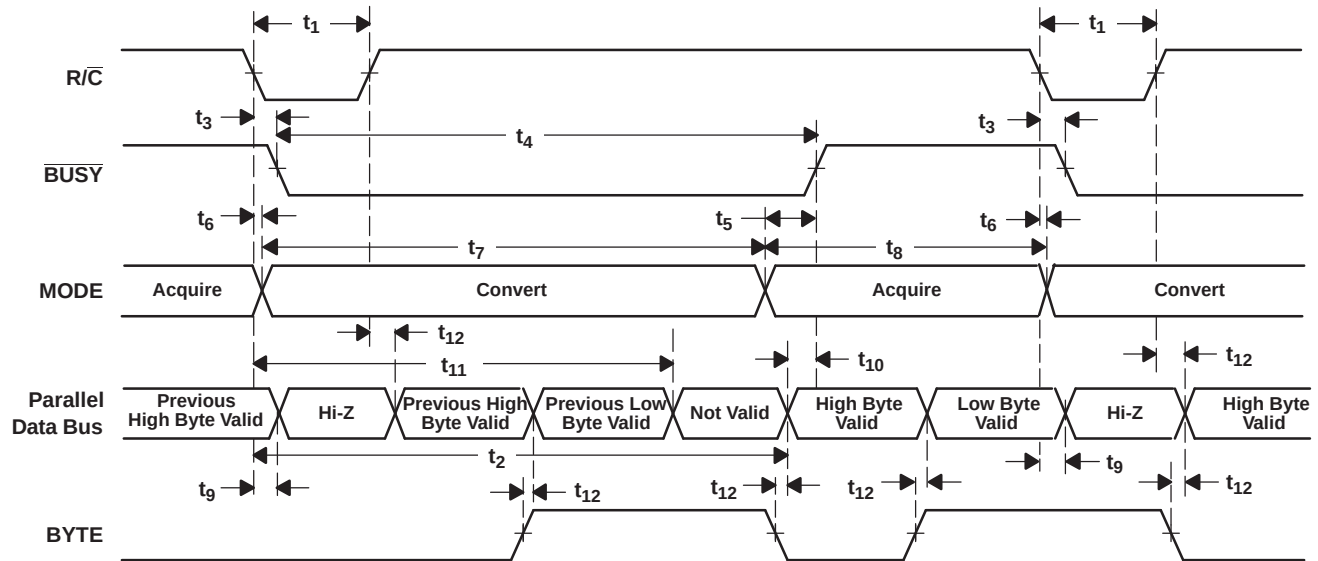
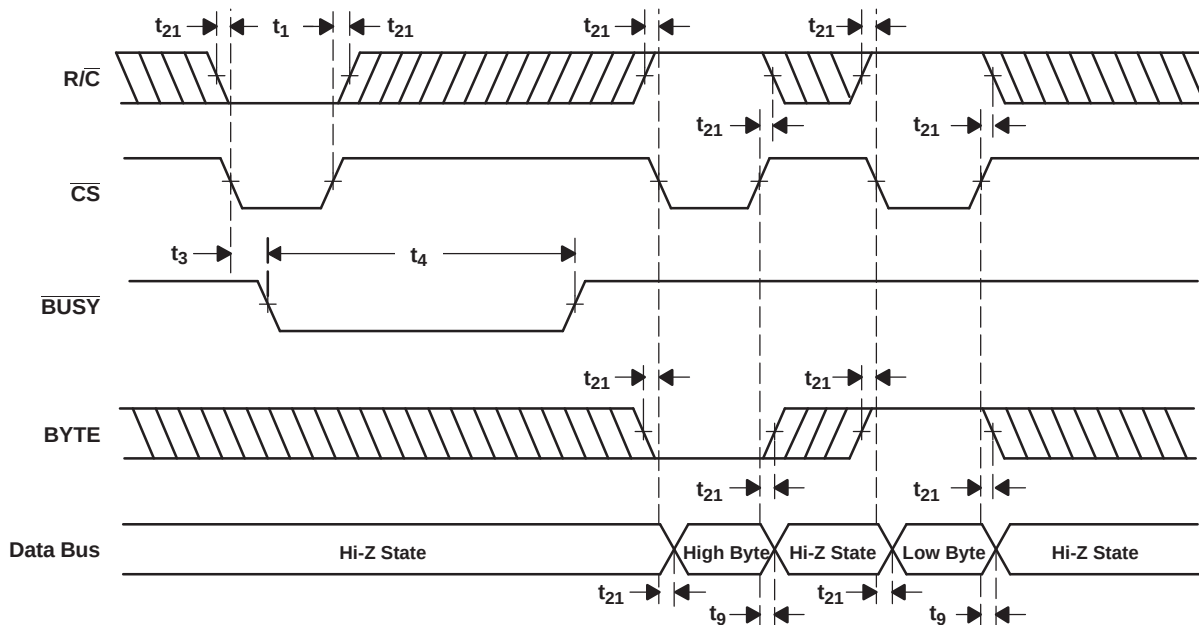

Figure 30. Conversion Timing With Parallel Output ($\overline{\text{CS}}$ and DATACLK Tied Low, EXT/INT Tied High)
Figure 31. $\overline{\text{CS}}$ to Control Conversion and Read Timing With Parallel Outputs
The ADS8517 begins tracking the input signal at the end of the conversion. Allowing 5 μ s between convert commands assures accurate acquisition of a new signal. Refer to Table 2 and Table 3 for a summary of $\overline{CS}$, $\overline{R/C}$, and $\overline{BUSY}$ states, and Figure 30 through Figure 36 for timing diagrams.
(1) See Figure 30 and Figure 31 for constraints on data valid from conversion $N-1$.
After conversion N is completed and the output registers have been updated, $\overline{\text{BUSY}}$ (pin 24) goes high. Valid data from conversion N are available on D7-D0 (pin 9-13 and 15-17). $\overline{\text{BUSY}}$ going high can be used to latch the data. Refer to Table 5, Figure 30, and Figure 31 for timing specifications.
After conversion N has been initiated, valid data from conversion $N-1$ can be read and are valid up to $2.2\ \mu\text{s}$ after the start of conversion N . Do not attempt to read data beyond $2.2\ \mu\text{s}$ after the start of conversion N until BUSY (pin 24) goes high; doing so may result in reading invalid data. Refer to Table 5, Figure 30, and Figure 31 for timing constraints.